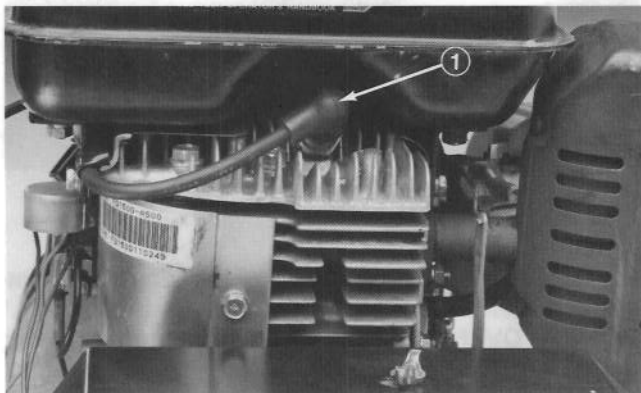

Figure 32
- 2. Clean around spark plug and remove plug from cylinder head (Fig. 32)